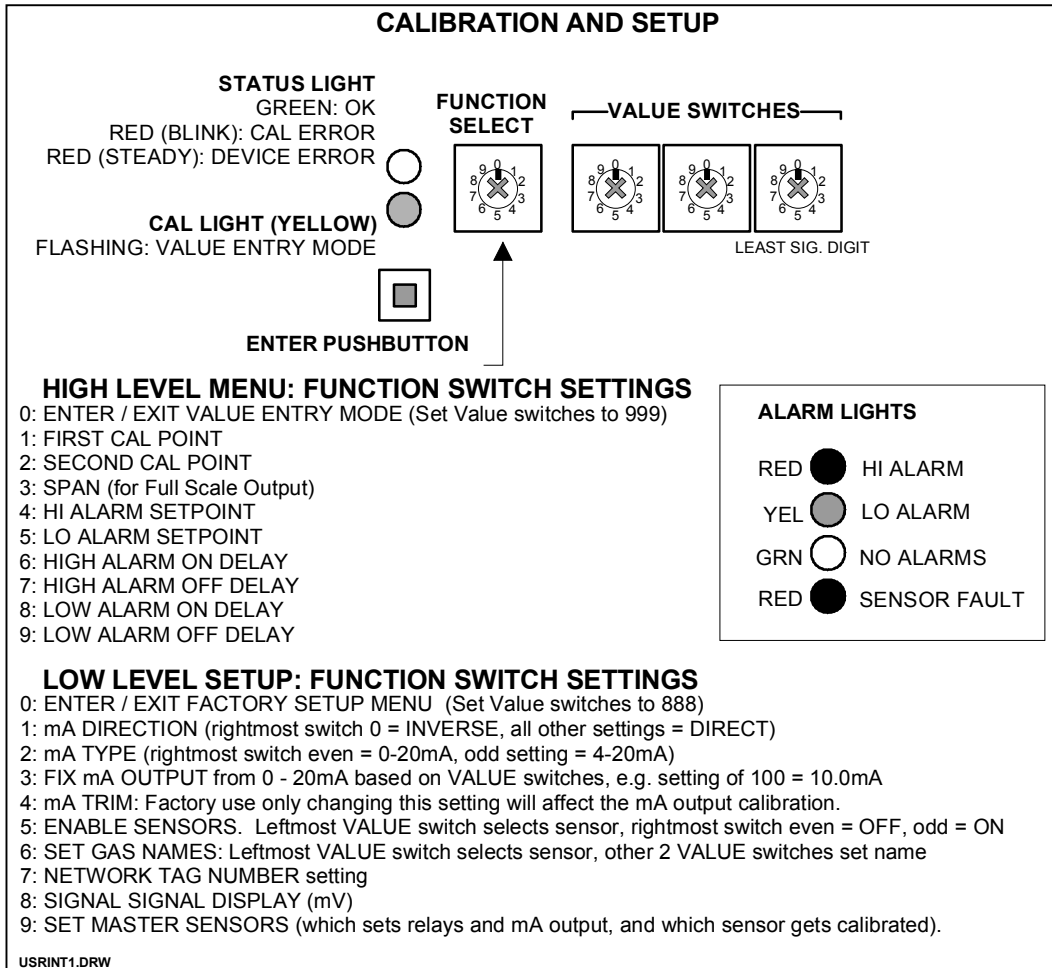

Figure 3.0
There are 2 main menus: High Level and Low Level (see Figure 3.0 for details). Each menu is only accessible by entering its corresponding password.
3. Enter the Low Level menu by setting the value switches (See Figure 3.0) to 888 and the Function switch to 0. Press the Enter pushbutton. The yellow LED will start flashing to indicate the Low Level menu is now accessible.